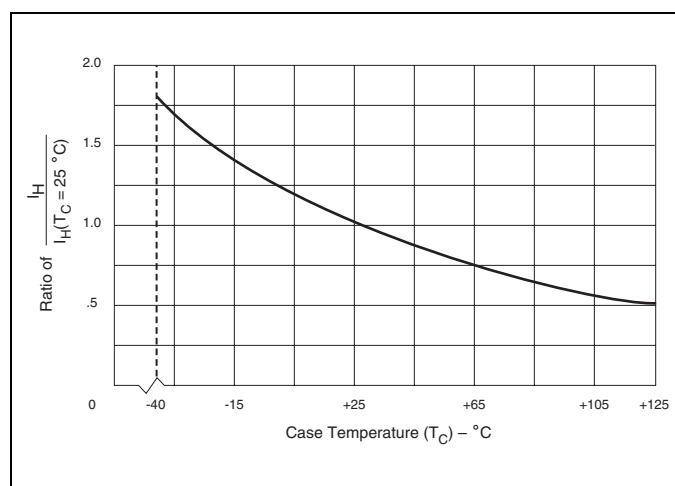

Figure E9.2 Normalized DC Holding Current versus Case/Lead Temperature
- See Figure E9.2 for I_H versus case temperature.